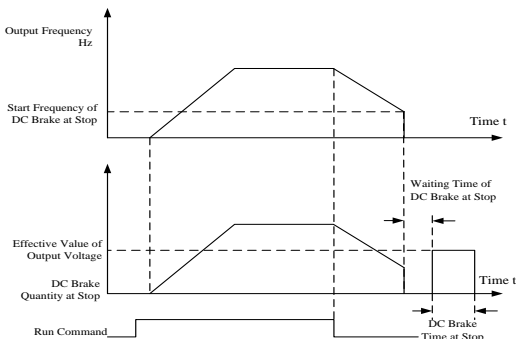

Figure 6-14 DC Brake Process at Stop
**F04.09** Set DC brake time at stop. If F04.09=0.00, the DC brake is disabled at stop. If there is a DC brake signal of external terminal at stop, then the DC brake time takes the bigger value between the active time of the terminal and the setting time of F04.09. See Figure 6-14 for DC brake process at stop.